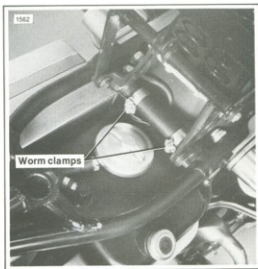

Figure 2-103. Comfort Flex Seat Mounting —
2. 1978 1/2-1980 models see Figure 2-103. Remove the two worm clamps that secure the suspension assembly to the frame cross tube.
2. 1978½-1980 models see Figure 2-103. Fasten the